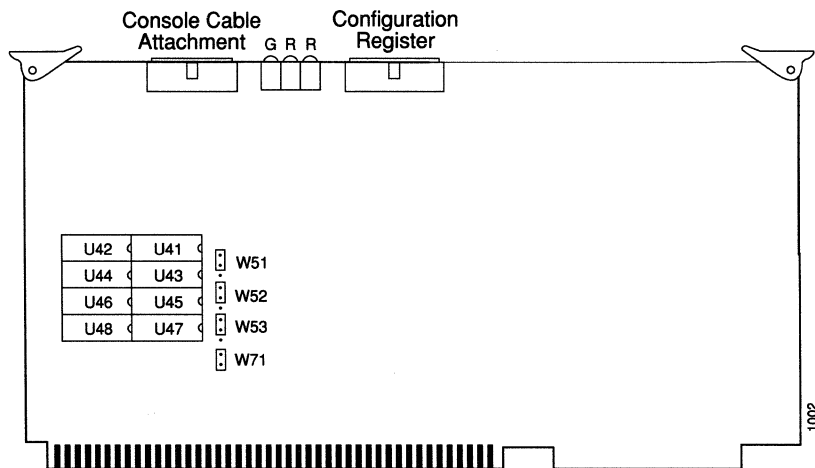

Figure 5-9 CSC/3 Processor Card — Component Side View
Figure 5-9 is a line drawing of the CSC/3 processor card viewed from the component side. Jumper settings can be found at the end of this section. Immediately following the card installation steps are the EPROM replacement procedures for the CSC/3 processor card.
- Step 6:** Connect the console cable (cable ends are keyed) to the console port on the CSC/3 card (see Figure 5-9).
Refer to Figure 5-9 for placement of the EPROMs on the CSC/3 processor card.
Each EPROM has a notch cut in one end to indicate its proper orientation. Each EPROM must be placed so that its notch is aligned with the notch in the EPROM socket, as shown in Figure 5-9. Do not rely on the orientation of the EPROM labels. See step 4, below, for specific installation instructions.